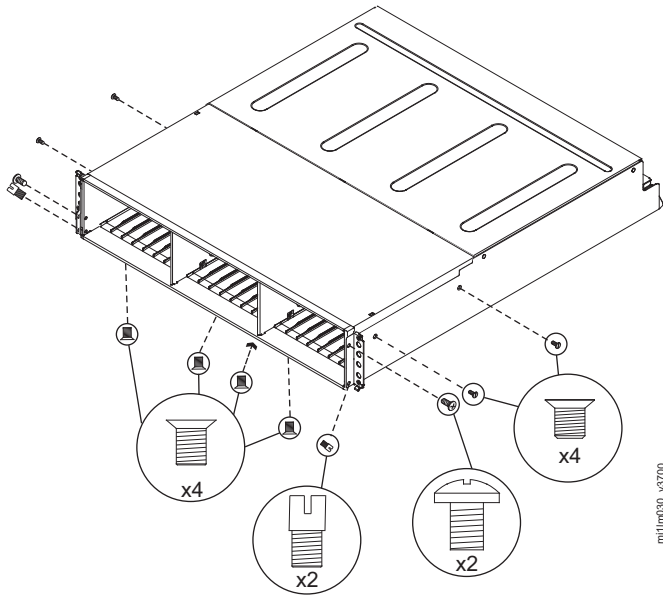

Figure 39. Removing the screws of an expansion enclosure assembly
12. Remove the four screws from the bottom of the enclosure (see Figure 39 on page 175). Remove the three screws that are near the front and the screw that is near the middle. Label these screws to indicate the location from which they are removed and place them aside.
14. Remove the three screws and one screw-pin on the right side that secure the midplane assembly to the enclosure (see Figure 39). Label the screws to indicate the location from which they are removed and place them aside.
15. Remove the three screws and one screw-pin on the left side that secure the midplane assembly to the enclosure (see Figure 39). Label the screws to indicate the location from which they are removed and place them aside. See Figure 4.